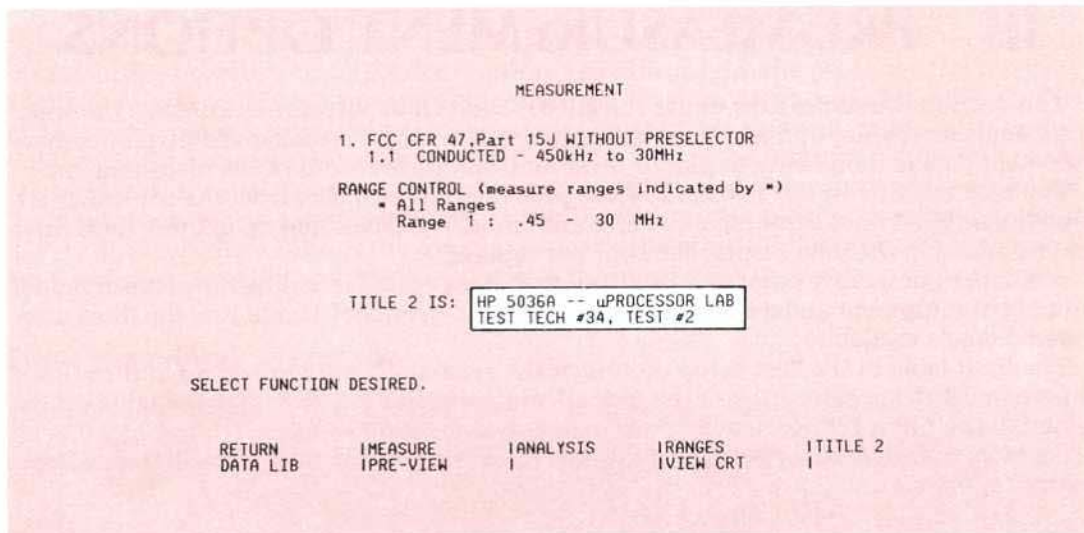

Figure 3. Measurement Menu Display
Entering Titles: (Figure 3 applies to 85864B only)
- Press **TITLE 2** softkey (see Figure 3)
From the MEASURE menu (see Figure 3)